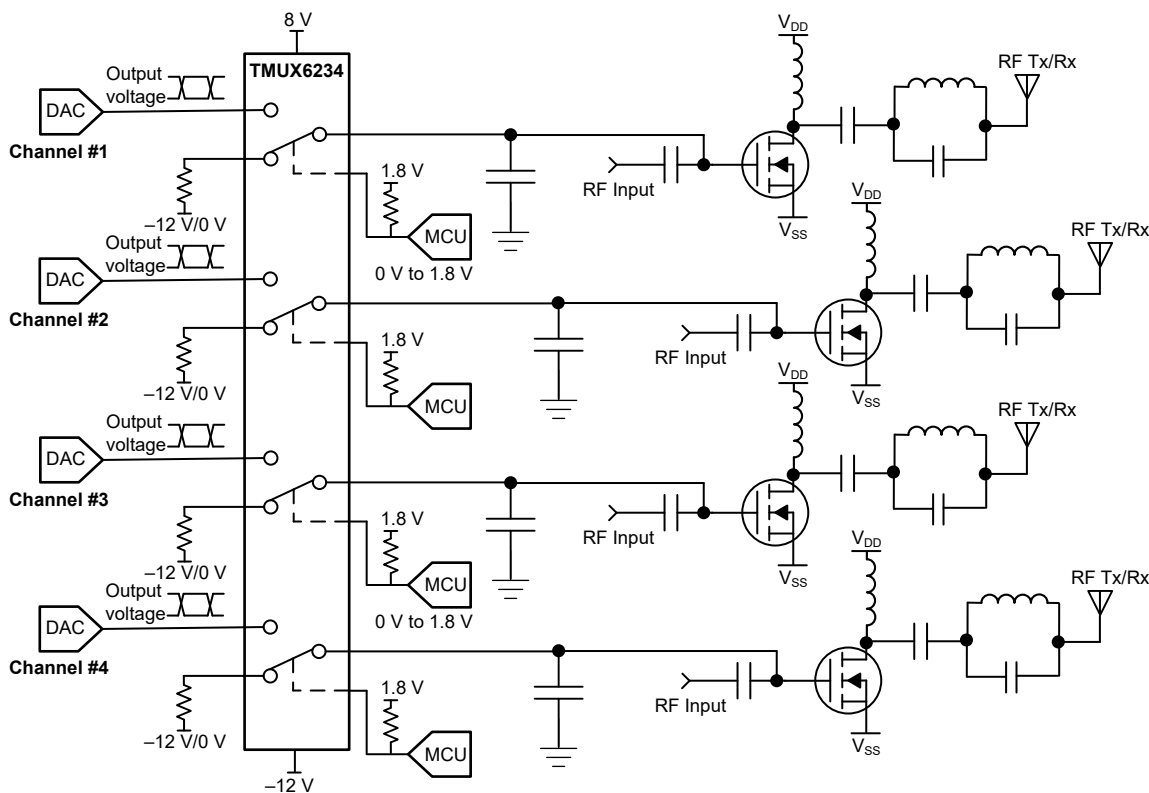

Figure 9-1. Power Amplifier Gate Driver
Figure 9-1 shows the TMUX6234 configured for control of a multi-channel power amplifier application.
The application shown in Figure 9-1 demonstrates how to toggle between the DAC output and a low signal voltage for control of a power amplifier. A device such as the TMUX6234 that supports multiple supply voltage combinations allows the system designer to use a single switch across platforms with different power amplifier topologies such as GaN or LDMOS implementations. Using a multi-channel switch like the TMUX6234 allows the system to improve density by implementing a smaller solution size. Multiple channels of the TMUX6234 can be utilized to switch additional stages of a single power amplifier channel. Or multiple channel switches can be used on different power amplifier stages in high channel count communications equipment such as a 32 transmit (TX), 32 receive (RX) active antenna system mMIMO (AAS). Each channel of the TMUX6234 has independent control signals allowing for overall system flexibility. The DAC output is utilized to bias the gate of the power amplifier and can be disconnected from the circuit using the select pins of the switch or the global enable pin. The TMUX6234 can support 1.8 V logic signals on the control input, allowing the device to interface with low logic controls of an FPGA or MCU. All inputs to the switch must fall within the recommended operating conditions of the TMUX6234 including signal range and continuous current. For this design with a positive supply of 8 V on  $V_{DD}$ , and negative supply of -12 V on  $V_{SS}$ , the signal range can be 8 V to -12 V. The maximum continuous current ( $I_{DC}$ ) is captured in the *Recommended Operating Conditions* table for a range of supply voltage cases.